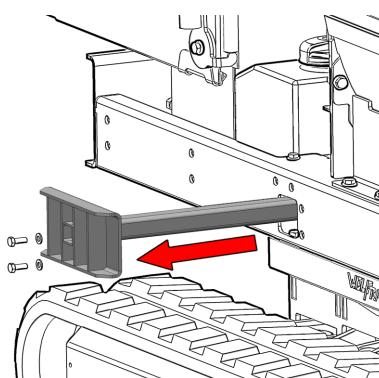

Figure 36 - Support stand
1. Loosen the two M10 screws and remove the support stand from its stowage (Figure 36).